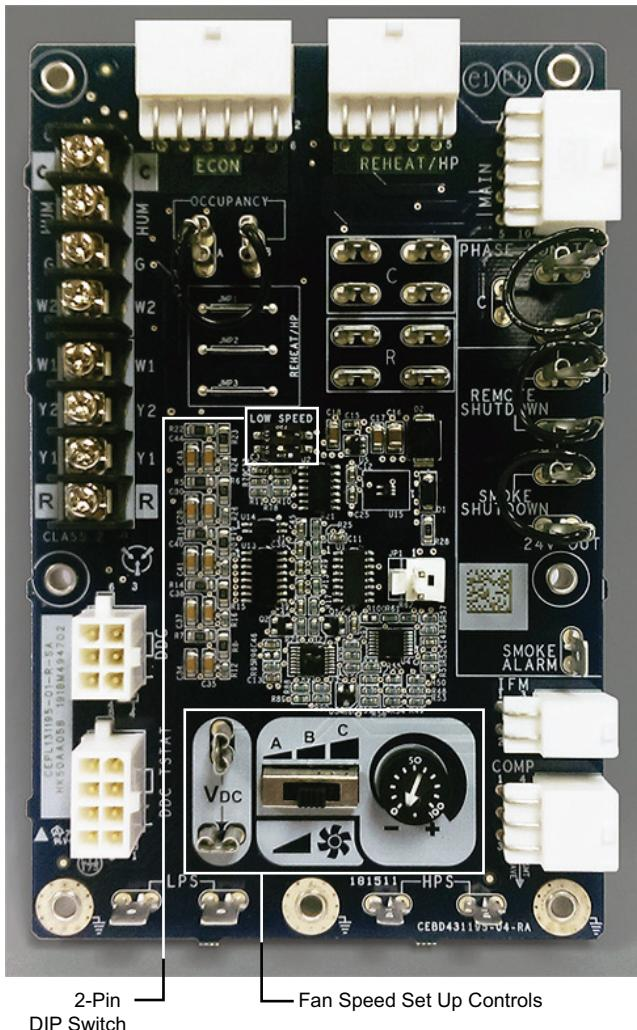
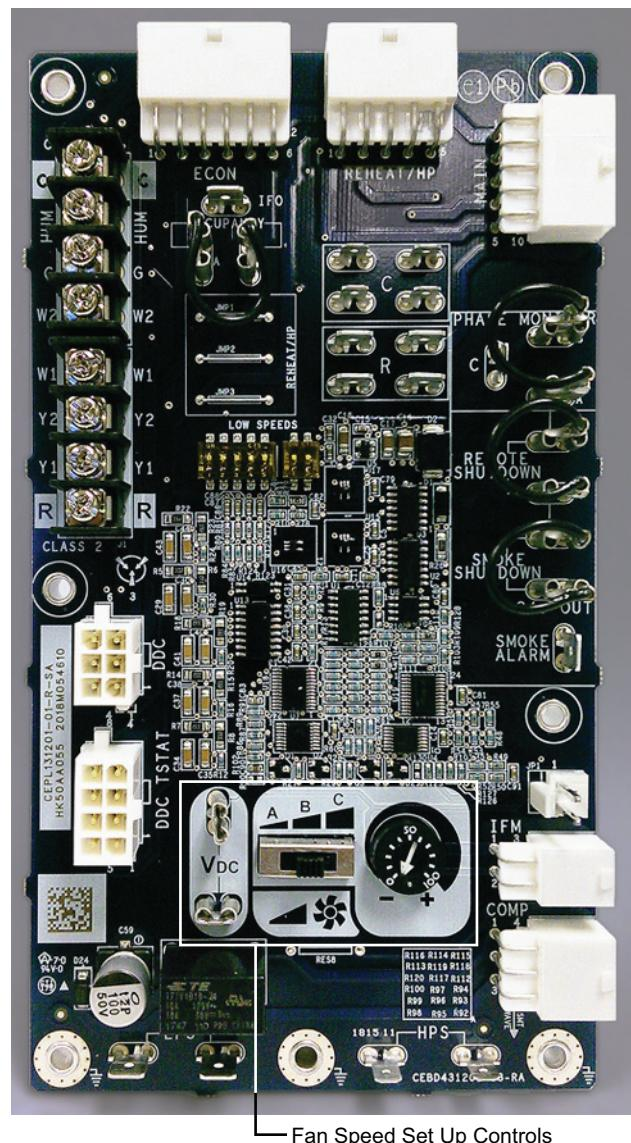

Fig. 7 – UCB Fan Speed Controls - 3-Phase Units
Fig. 8 – UCB Fan Speed Controls - Single Phase Units
The Fan Speed Set Up controls are located on the lower section of the Unit Control Board (UCB). See Fig. 7 for location on 3 phase voltage units or Fig. 8 for location on single phase voltage units.
The 2-pin DIP switch is common to both the single and 3 phase unit control boards (see Fig. 7 and 8). When replacing UCB, the board will be shipped as default without a low speed selected. To select correct FE low fan speed for 3 to 5 ton 48FE Ultra Low NOx units set both dip switches to “OFF” (0). See Table 1. The DIP switch positions can also be found on the unit's control label diagram.